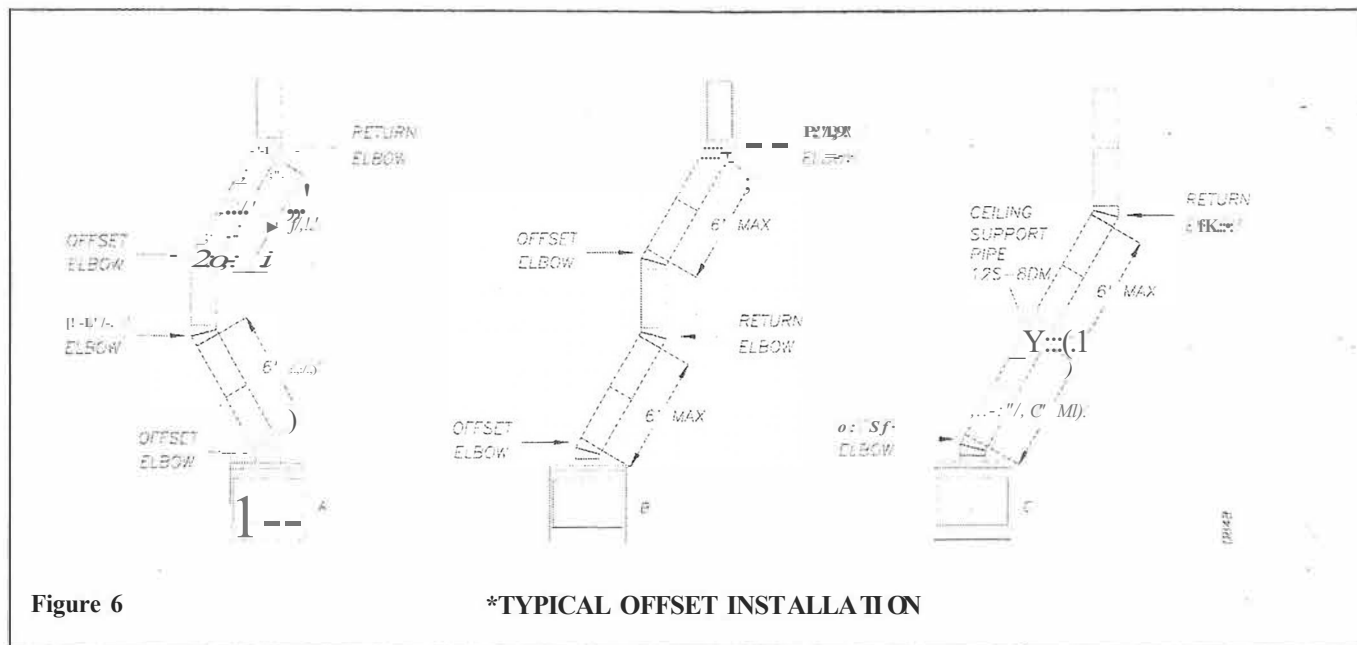

Figure 6 *TYPICAL OFFSET INSTALLATION
1. To achieve desired offset, you may install combinations of 12", J8", 24", 36" and 48" length of double wall pipe (SEE SINGLE OFFSET CHART AND FIGURE 6).
3. Maximum length of pipe between supports (return elbow or 12S-8DM) is 6' of angle run. Maximum of two (2) 6' angle run sections per chimney system (see figure 6).